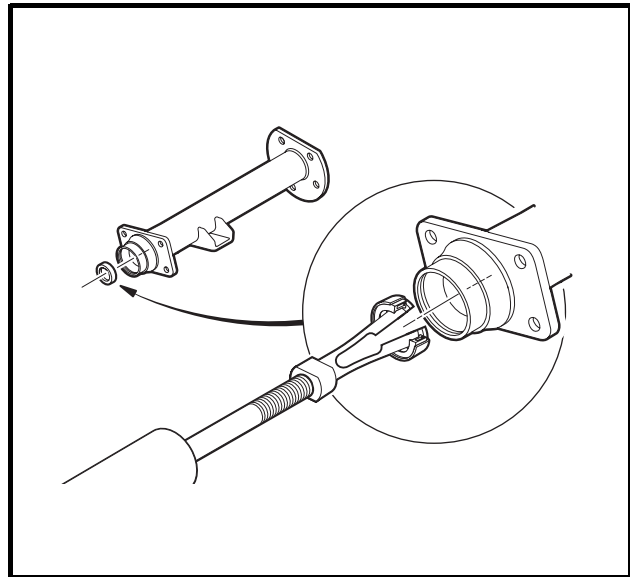

Figure 17-2 Axle Seal and Adapter Ring Removal
- 6.1. Use a bearing puller (CCI P/N 1016417) to remove the axle seal and adapter ring from the axle tube (**Figure 17-2, Page 17-2**). **See following CAUTION and NOTE.**